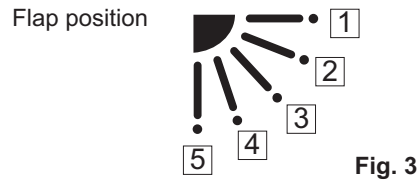

Fig. 3
* Setting data “**YYYY**” (refer to Fig.3)
When the flap position is set to **4** or **5** and the unit is in the cooling or dry mode, the flap position is moved to **3** and the operation is started. (refer to Fig.3)
At this time, the unselected flaps are moved to the position **1**. (refer to Fig.3)